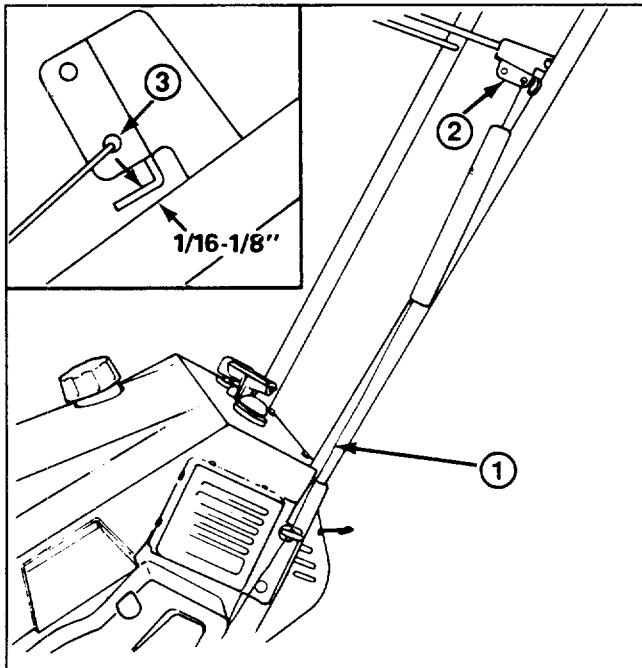

Figure 9
ADJUSTING CONTROL BAR (Fig. 9–10)
2. **CHECK ADJUSTMENT** (Fig. 9) — Move control bar back toward handle until slack in cable is removed. Gap between control bar bracket and handle should be approximately $1/16"$ – $1/8"$. If cable is too loose or too tight, proceed to step 3 for adjustment procedure.